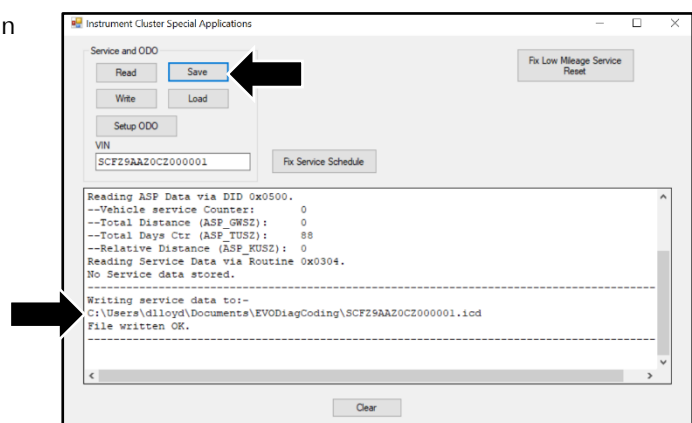

Figure 4
7. Copy the file address shown (refer to Figure 4) then click "Save".